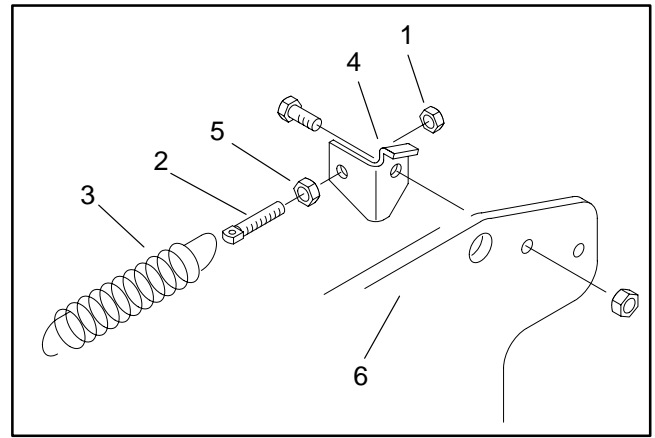

Figure 17
2. Remove lock nut securing the pin and extension spring to the spring bracket. Do not unscrew jam nut from the pin. Release pin from the bracket (Fig. 17).
14. Insert pin into the spring bracket with the extension spring attached to the pin. Secure pin to the bracket with the lock nut (Fig. 17).